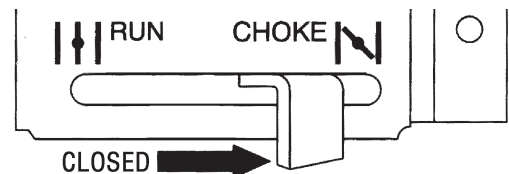

Figure 24. Engine Choke Lever (Closed)
7. If the engine has started, slowly return the choke lever to the **RUN (OPEN)** position if needed (Figure 24). If the engine has not started repeat steps 1 through 4.